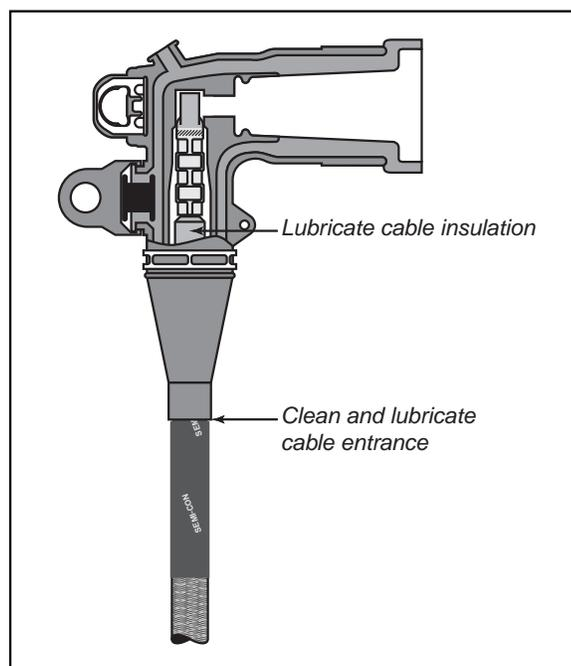

Figure 11
- 6.2 Apply a thin coating of silicone lubricant to the cable insulation. (Figure 11.)
- 6.3 Clean and lubricate the cable entrance. Install elbow with a twisting motion; push elbow onto cable until the threaded eye of the connector is aligned with the elbow. (Figure 11.)